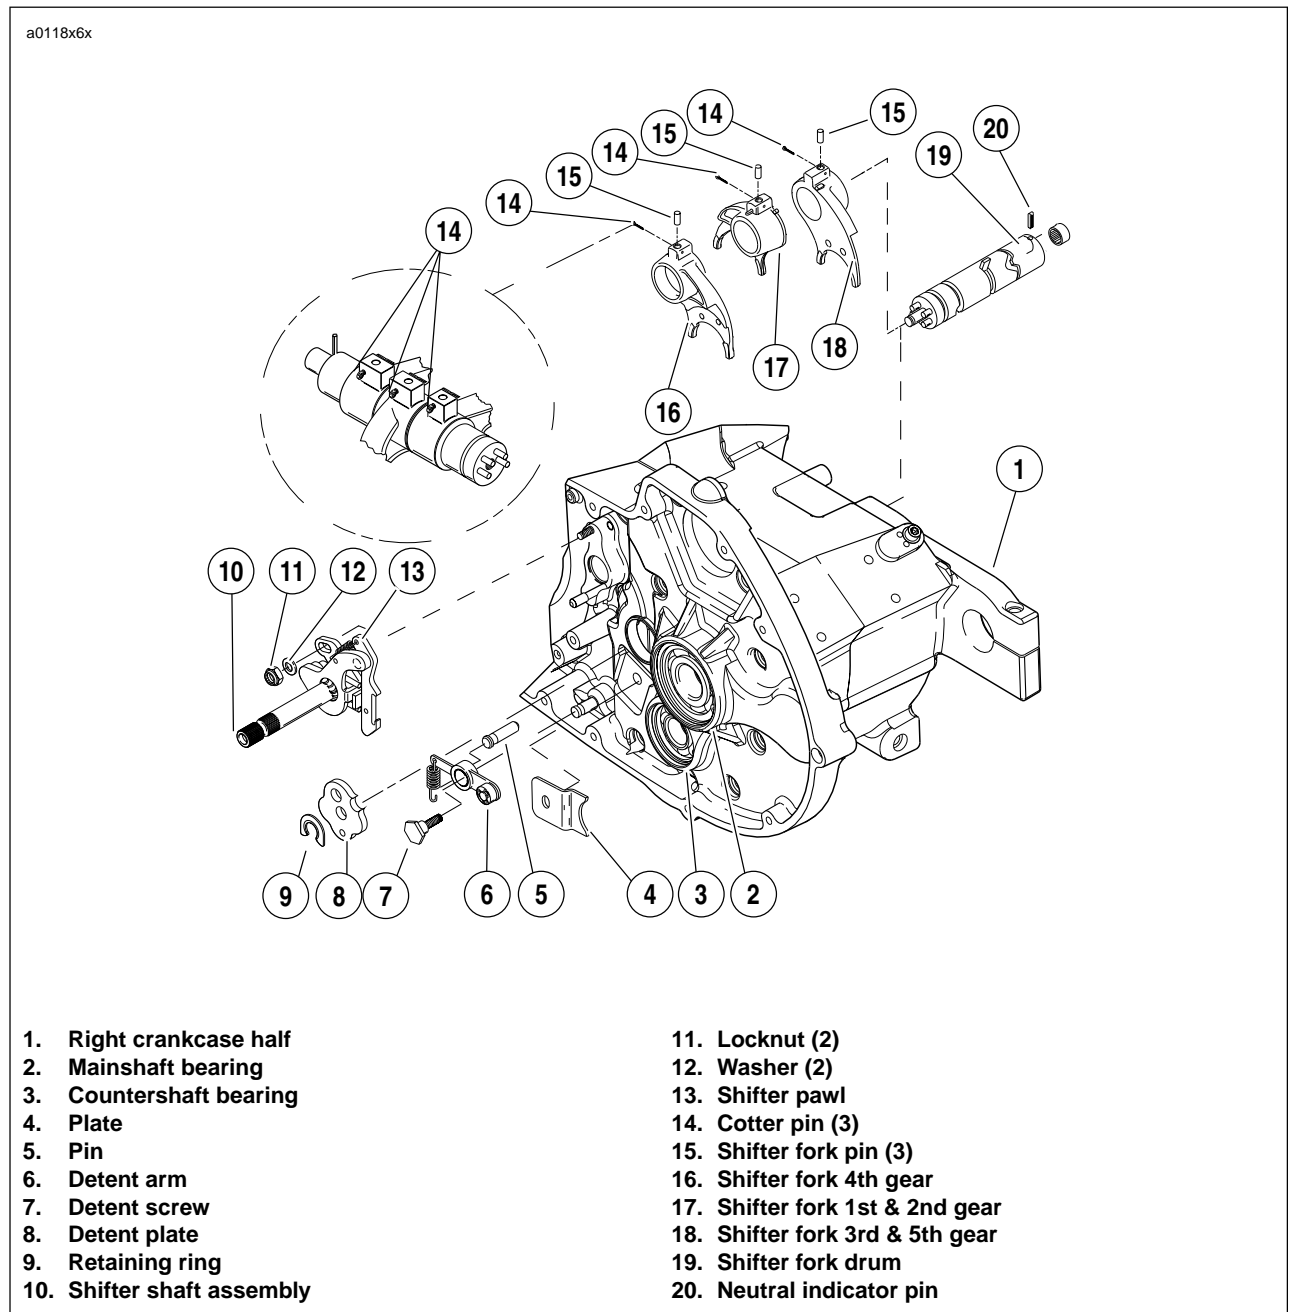

Figure 6-30. Shifter Mechanism
1. See Figure 6-30. Remove and discard the three fork cotter pins (14).
2. Remove three shifter fork pins (15). A small magnet is useful in freeing the fork pins.
3. Slide shifter fork drum (19) away through shifter forks. The neutral indicator pin (20) prevents removal in the other direction.
5. See Figure 6-30. Position the shifter drum shaft so that the neutral indicator switch activator pin is upward. The shaft is then in the neutral position.